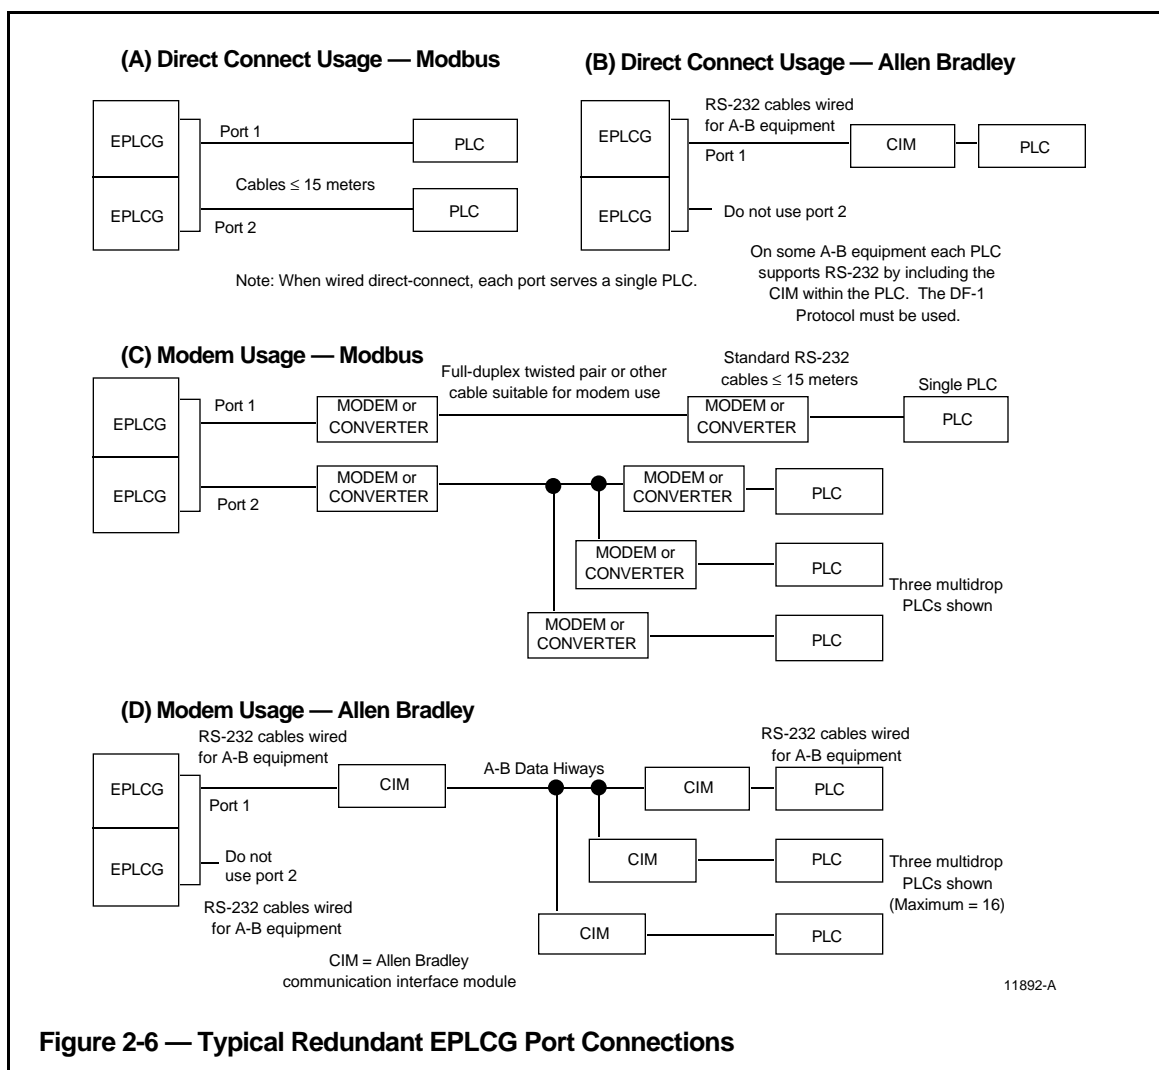

Figure 2-6 — Typical Redundant EPLCG Port Connections
Figure 2-6 (A) and (B) illustrate examples of direct-connection to PLCs from a redundant EPLCG. Note there can be only two PLCs connected in this manner if you are using Modbus protocol or only one PLC if you are using the Allen-Bradley protocol without the redundant communications feature.
Notice Figure 2-6 (C) and (D) are very similar to those illustrations in Figure 2-4. Allen-Bradley full-duplex operation prevents Port 2 from being used, without the redundant communications feature, but there is little loss of capability since up to 16 PLCs can be connected to the same network.